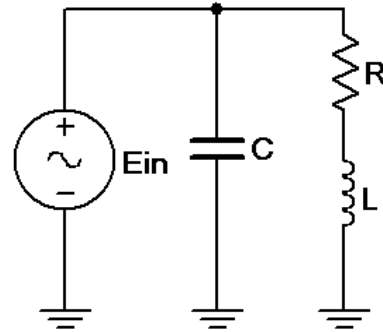

Figure 8.2
7. Using Figure 8.2 with a 10k Hz sine wave at 10 V p-p, $R=1\text{ k}\Omega$, $L=10\text{ mH}$, and $C=10\text{ nF}$, determine the theoretical inductive and capacitive reactances, series branch impedance and total circuit impedance, and record the results in Table 8.3. Using Ohm's law compute the capacitor and inductor-resistor currents along with the input current and record them in Table 8.4.
8. Build the circuit of Figure 8.2 using $R=1\text{ k}\Omega$, $L=10\text{ mH}$, and $C=10\text{ nF}$. Insert a $10\ \Omega$ current sense resistor at the bottom of the LR leg and another at the bottom of the capacitor leg. Set the generator to a 10 kHz sine wave and 10 V p-p. Make sure that the *Bandwidth Limit* of the oscilloscope is engaged for both channels. This will reduce the signal noise and make for more accurate readings.
4. In general, how would the phasor diagram of Figure 8.2 change if the frequency was lowered?